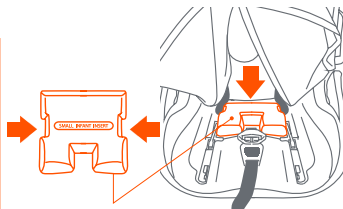

Fig. 31-2
- 3. Place the small infant insert between harness straps and crotch buckle as shown in (Fig. 31-2).